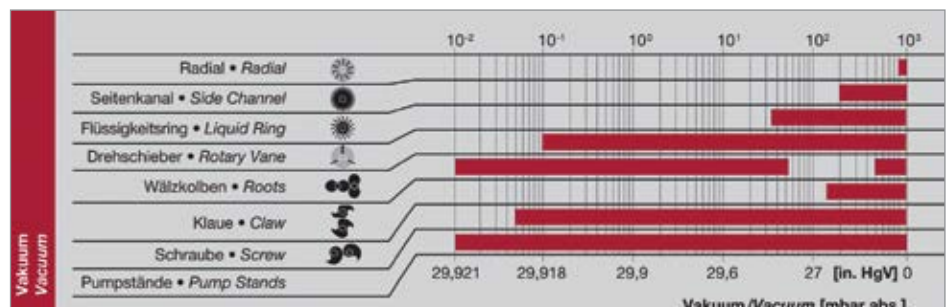

Figure 1. Vacuum Depth Chart. Image used with permission from Gardner Denver.
Figure 1 is a reference chart we frequently use to help guide our customers in choosing
- Roots blower. The chart (Figure 1) shows two effective vacuum ranges for this type of blowers, one at rough vacuum like that of a side channel blower, and one at deep vacuum close to that of a screw pump. This blower is frequently used as an alternative to side channel blower for vacuum material conveying applications that requires large air flow and relatively low vacuum depth. The roots type blower is also used as a booster pump in combination with an oil-lubricated rotary vane, LRPV, or screw pump to achieve very deep vacuum with high CFM capacity.